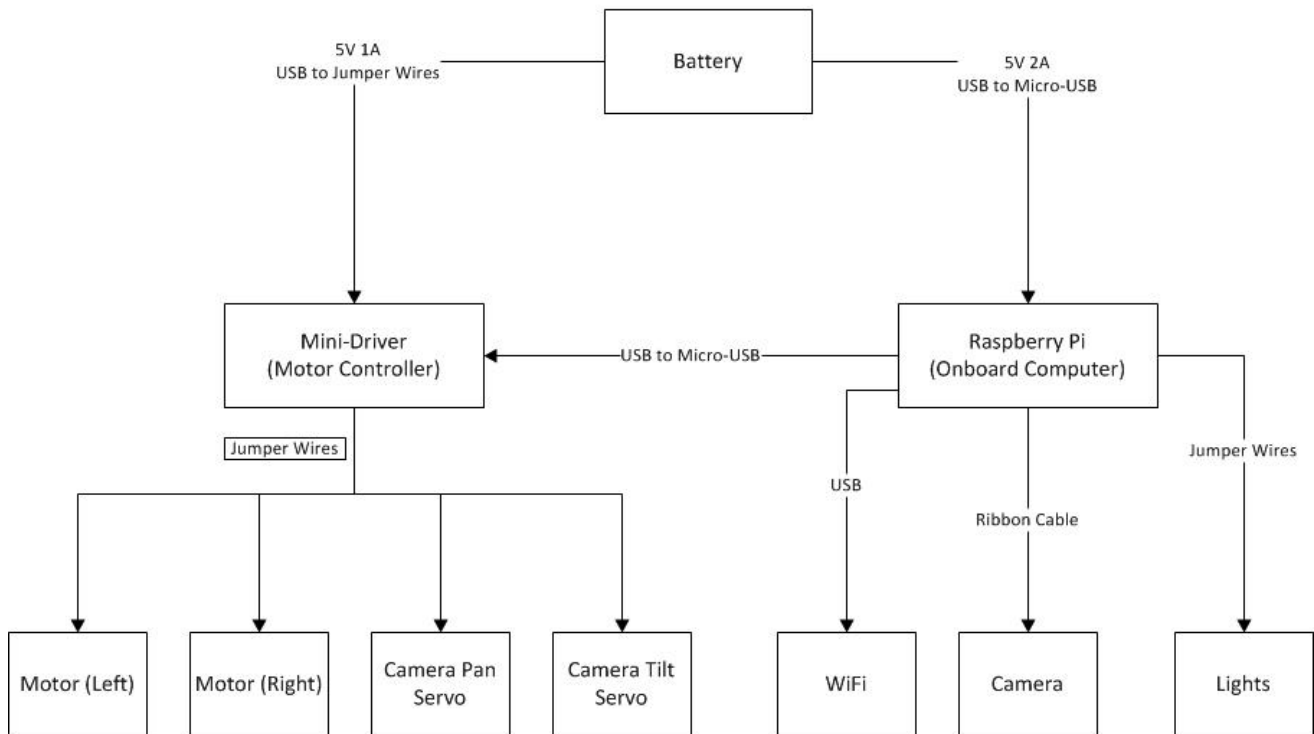

Figure 2: Diagram showing how the robot is wired together.
6. Now that all of the hardware is affixed to the base, you can now attach the wires to connect everything. This is described in fig. 2.